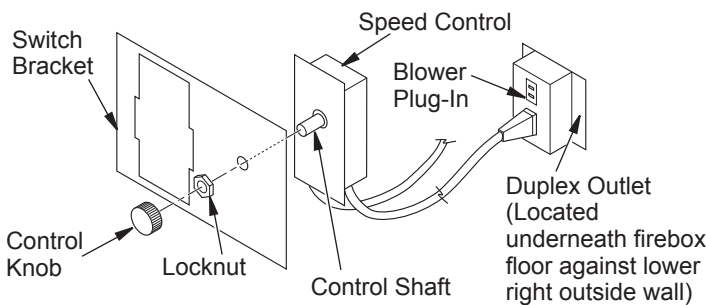

Figure 26 - Attaching Speed Control to Firebox
5. Mount speed control box to switch bracket by placing the plastic control shaft forward through the round opening in the switch bracket (see Figure 26).
- Mount the speed control box against the mounting plate provided in the lower fireplace cavity by placing the plastic control shaft forward through the round hole (see Figure 26, page 17).
- While supporting speed control, secure control shaft with lock nut by pushing and turning lock nut with pliers clockwise until it is tight against mounting plate. Place control knob provided on shaft (see Figure 26, page 17).